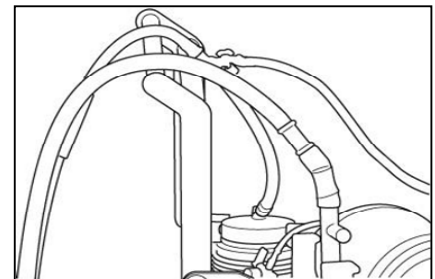

Figure 12
- When rotating 90 degrees, the tube must be put on the holder for rotation not to fold the circuit (Figure 12).